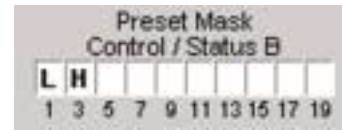

Figure 4.4. Preset Mask Control/Status B
**Preset Mask Control/Status B.** With Preset Mask Control Status B you can require an active high (H) or active low (L) contact on a control pin (1–19 odd numbers) or combination of several contacts in order to run the preset.
A typical use for Preset Mask Control Status B is a room combining application which uses automatic partitions with sensors or triggers which set the pin to high (H) when the partition is closed and to low (L) when the partition is open. For example, if pin 1 is connected to the first partition and Pin 3 is connected to the second partition, then the Preset Mask Control Status B settings shown in Figure 4.4 will activate the preset when the first partition is open and the second partition is closed.